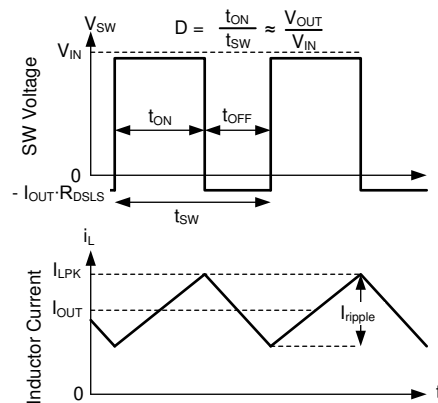

图 8-20. SW Voltage and Inductor Current Waveforms in Continuous Conduction Mode (CCM)
The following operating description of the LM6x4xx refers to § 8.2 and the waveforms in 图 8-20. Both supply a regulated output voltage by turning on the internal high-side (HS) and low-side (LS) NMOS switches with varying duty cycle (D). During the HS switch on-time, the SW terminal voltage,  $V_{SW}$ , swings up to approximately  $V_{IN}$ , and the inductor current,  $i_L$ , increases with a linear slope. The HS switch is turned off by the control logic. During the HS switch off-time,  $t_{OFF}$ , the LS switch is turned on. Inductor current discharges through the LS switch, forcing  $V_{SW}$  to swing below ground by the voltage drop across the LS switch. The regulator loop adjusts the duty cycle to maintain a constant output voltage. D is defined by the on-time of the HS switch over the switching period:  $D = T_{ON} / (T_{ON} + T_{OFF})$ .